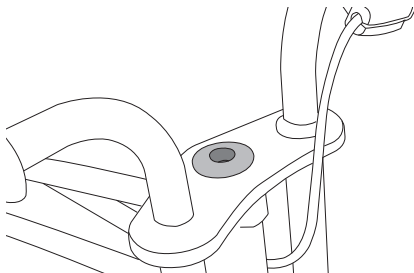

Figure 5
- Identify the washer and place it into the hole in the center of the handlebars (indentation down). See Figure 5.